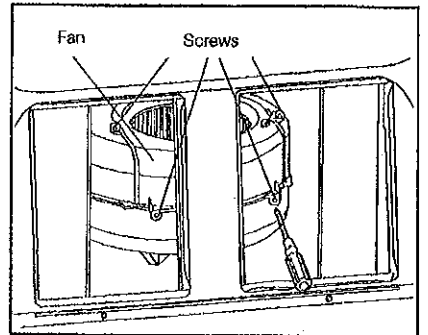

Fig. 14
- **(Fig. 14)** Using a screwdriver to remove fan housing front face.